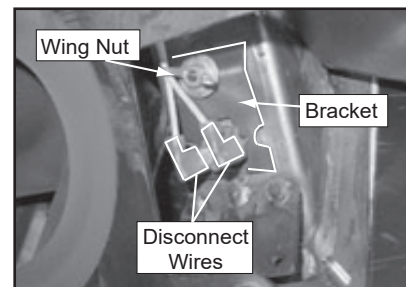

Figure 27.3
8. Disconnect wires from snap disc #2 (**Figure 27.3**).